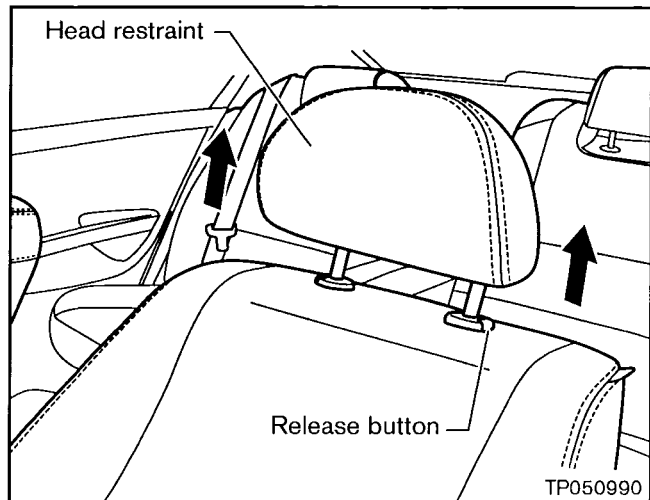

Figure 1
- a. Remove the head restraint from the seat by pressing the release button and lifting UP on the restraint (see Figure 1).